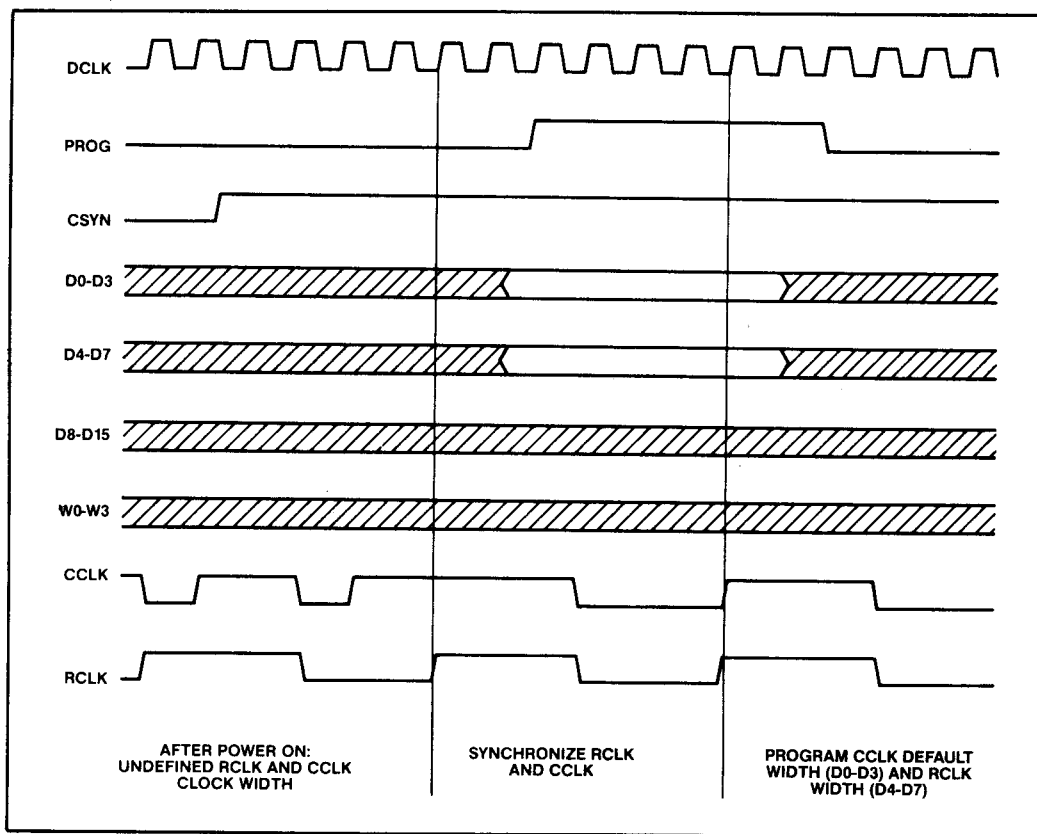

Figure 6. Clock Initialization
RCLK is the reference clock output used to generate video timing and to define screen columns for data formatting and tabular locations. In addition, it is used to clock the field attribute signals into the 82731. The period of RCLK is programmable from 6 to 21 times the period of the dot clock, i.e. the RCLK high time is 3 dot clock periods and the RCLK low time is programmable from 3 to 18 dot clock periods. It is programmed via D4-D7 at the rising edge of CCLK, when PROG is active (see Table 1 and Figure 6).
If the width defeat attribute (WDEF) is active, the period of CCLK will be set to the programmed default value ignoring the clock width inputs W0-W3. This value is programmable from 3 to 18 times the period of the dot clock via the D0-D3 inputs, when the PROG input is active (see Figure 6).
- Activate the PROG signal. The default width of CCLK and the width of RCLK are programmed at the next rising edge of CCLK (see Figure 6).